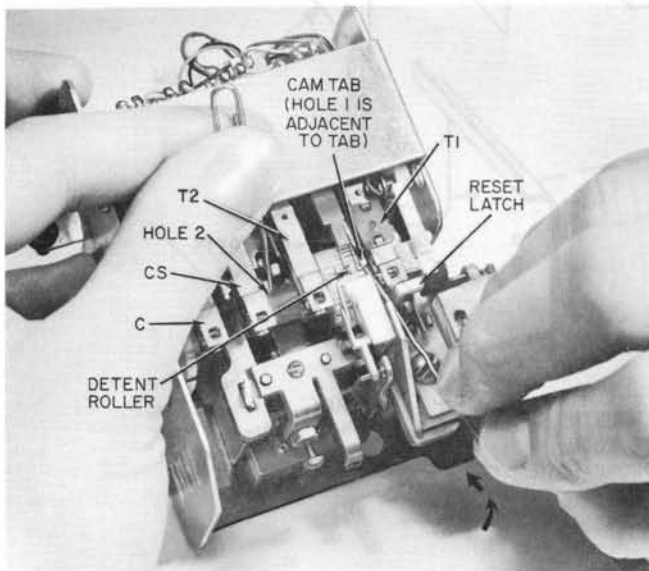

Fig. 25—Decreasing Chute Totalizer Rate (Typical)
- (5) Verify the new initial rate setting.
- (b) To decrease the chute totalizer rate shown in Fig. 25, do the following:
(2) Rotate the shaft about ten steps further in the direction shown in Fig. 25 until a tab on the T1 cam is accessible.
(4) Position a second paper clip in the hole on the T1 cam indicated as hole 1 shown in Fig. 25 and rotate the cam in the direction of the curved arrow as shown.
If hole 1 in the T1 cam has been mutilated or clogged preventing use, place the paper clip against the tab as shown in Fig. 25 and push the tab in the direction of the straight arrow. One step of rotation of the T1 cam in this direction of the curved arrow shown in Fig. 25 decreases the rate by 5 cents.